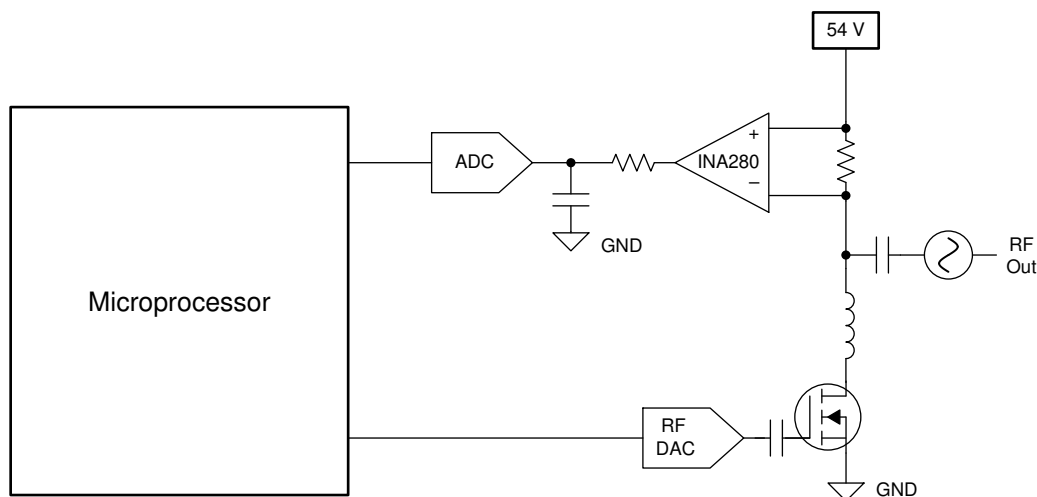

图 8-2. Current Sensing in a PA Application
The INA280 is a unidirectional, current-sense amplifier capable of measuring currents through a resistive shunt with shunt common-mode voltages from 2.7 V to 120 V. The circuit configuration for monitoring current in a high-side radio frequency (RF) power amplifier (PA) application is shown in 图 8-2.